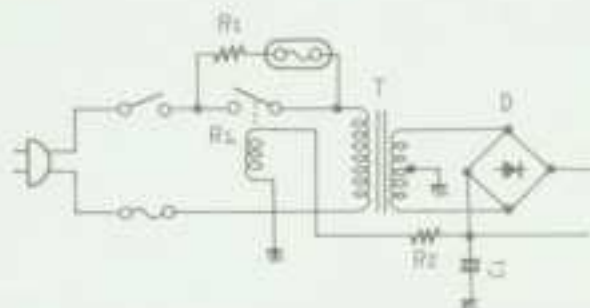

Fig. 9 Surge current suppressor circuit
**Surge Current Suppressor Circuit (Fig. 9)**